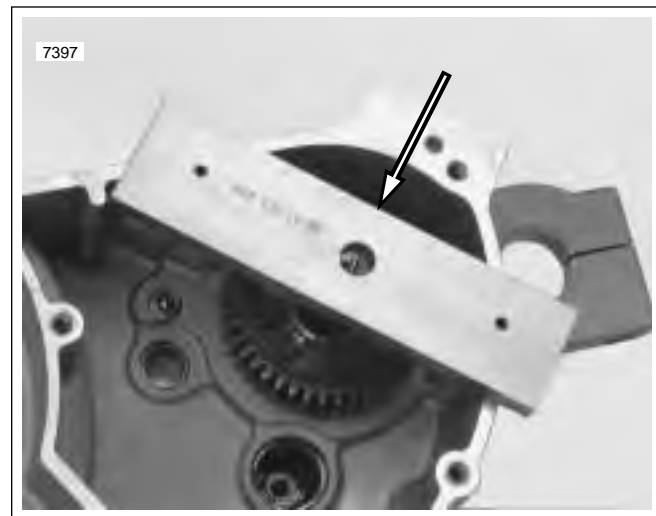

Figure 6-44. Mounting Cross Plate (Part No. B-43983)
2. See *Figure 6-44*. Remove main drive 5th gear. Use MAIN DRIVE GEAR REMOVER AND INSTALLER (Part No.HD-35316A). See **6.9 MAIN DRIVE GEAR**.
1. Locate MAIN DRIVE GEAR REMOVER AND INSTALLER (Part No. HD-35316-A). See *Figure 6-44*. Place cross plate pins in appropriate holes in transmission case.